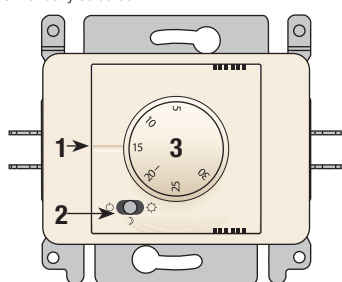

fig.3
Parts (fig.3)
1. Set value: the line indicates the desired temperature (e.g. in fig. 3, the thermostat is set to 15°C).